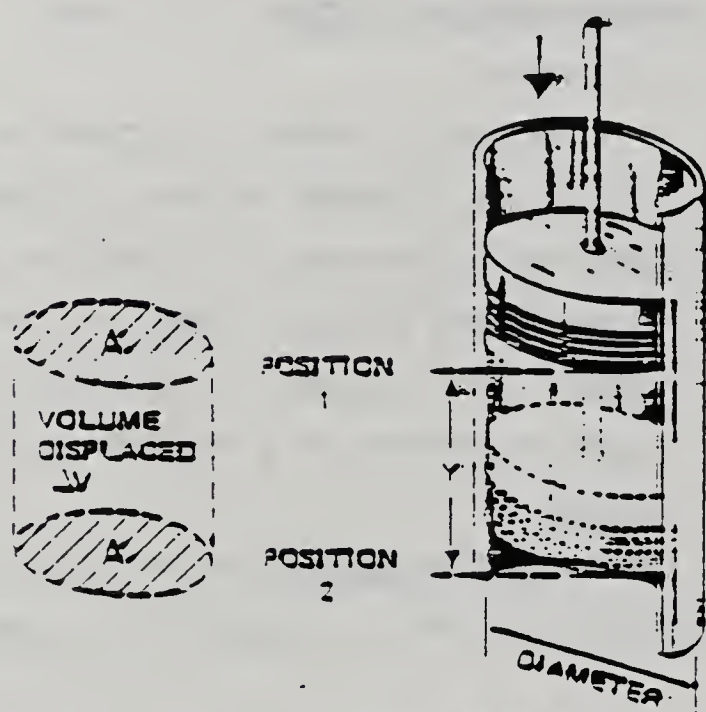

Fig. 3 Piston compresses a gas, changing its volume in the cylinder.
Consider a certain volume of air trapped in the cylinder shown in Figure 3. The piston moves from position 1 to position 2, compressing the air. As the piston is lowered, the volume of the air decreases. The drawing on the side shows the decrease in the volume of the air that is compressed. This decrease in volume is equal to the volume of air displaced by the piston. The exact volume of air displaced can be determined by calculating the volume of a
**Given:** A piston such as the one shown in Figure 3 moves a distance of 2.0 inches in a cylinder where the inside diameter is 4.0 inches.